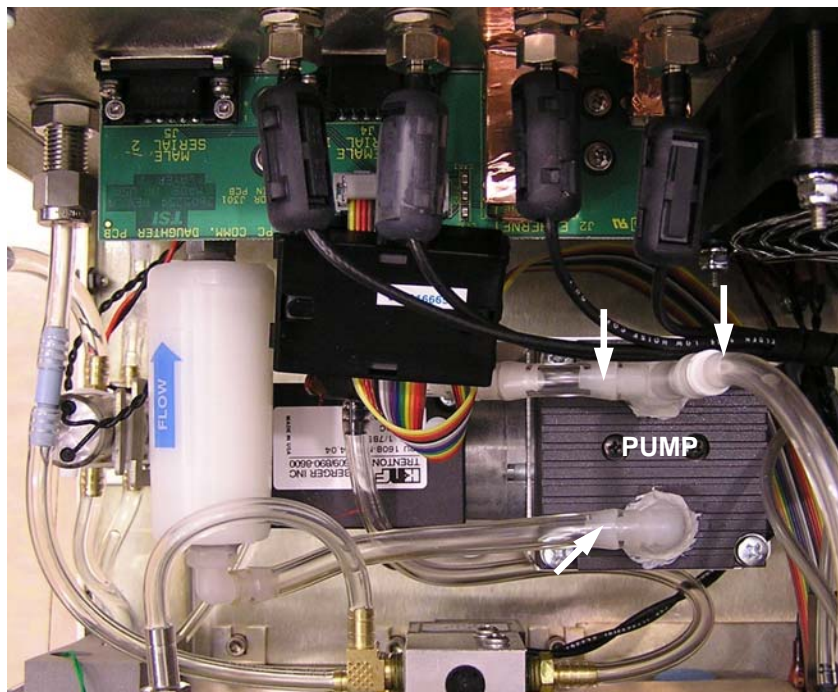

Figure 8-13
3. Locate the top of the internal vacuum pump shown in Figure 8-13.
4. Disconnect tubing from the barbed fittings identified by arrows in Figure 8-13.